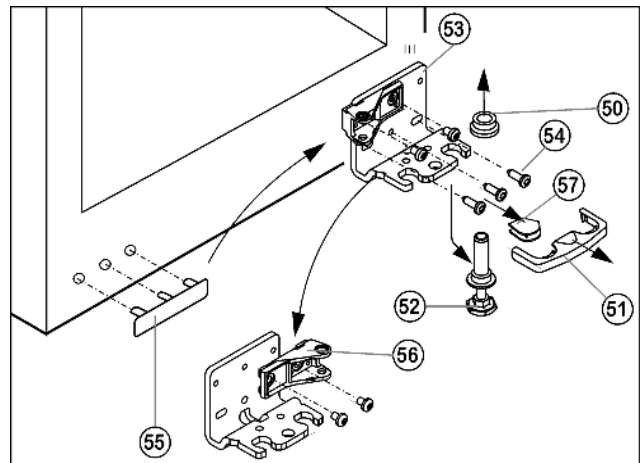

Fig. 14
- ▶ Draw the safety lock *Fig. 14 (51)* forwards for removal.
- ▶ Remove the cover *Fig. 14 (57)*.*
- ▶ Fully retract the adjustable-height foot *Fig. 14 (52)*.
- ▶ Pull out the bearing pin *Fig. 14 (52)* downwards and forwards. In so doing, pay attention to the hinge bush *Fig. 14 (50)*.
- ▶ Unscrew the turn hinge *Fig. 14 (53)* (3 Torx 25) *Fig. 14 (54)*.
- ▶ Carefully lift off and transfer the cover on the handle side *Fig. 14 (55)*.
- ▶ Screw the turn hinge *Fig. 14 (53)* firmly into place on the new hinge side, possibly using a cordless screwdriver (**with 4 Nm**).
- ▶ Unscrew the bearing part, *Fig. 14 (56)*, turn it 180° and screw it down again.
- ▶ Place the cover *Fig. 14 (57)* on the opposite side.*
- ▶ The safety lock (51) has to engage with the turn hinge at the side so that the bearing pin and therefore the door are secured.
- ▶ Snap the safety lock (51) onto the turn hinge again.
- ▶ Put on the hinge bush *Fig. 14 (50)*.
- ▶ Place the door from above onto the bearing pin *Fig. 14 (52)*.